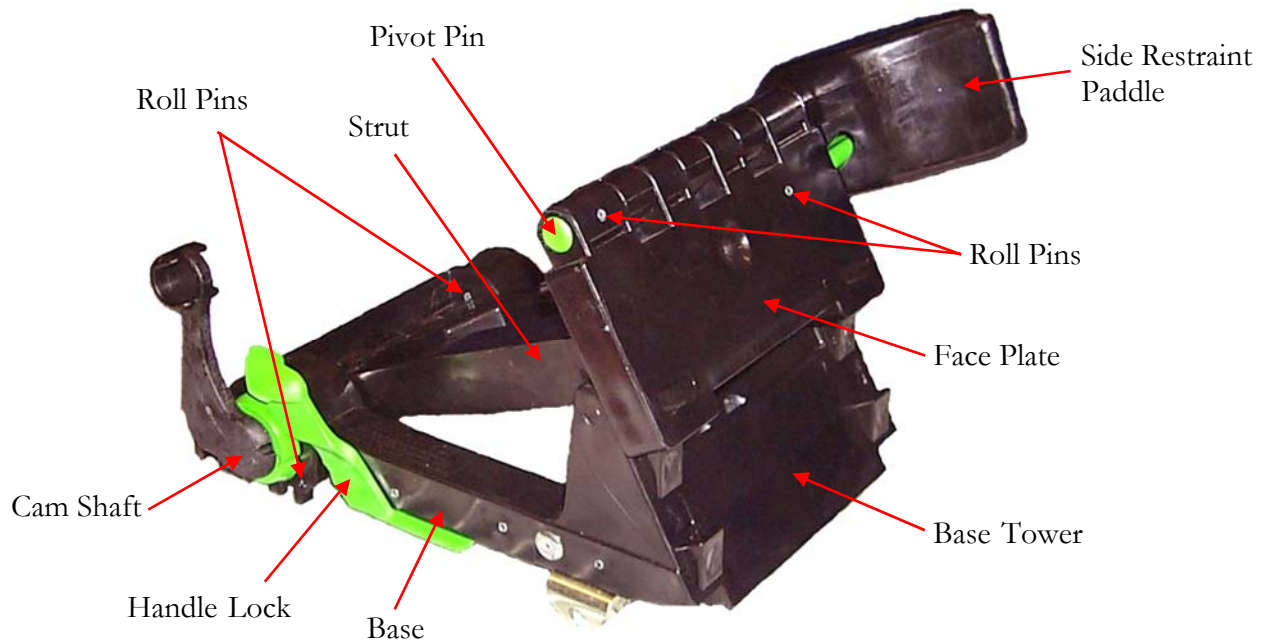

Figure 1: Upperside Component Nomenclature
All major plastic chock components, namely the Base, Strut, and Face Plate should be examined for cracks, fractures, and visible deformations like strain whitening marks. (See Figure 1 for component nomenclature). If defects are found, then the chock is considered to be non-functional and must be repaired or replaced as outlined in the following sections.
- a) The Roll Pins in the Chock Base (12) and in the Face Plate (2) should not be missing or protruding. (See Figures 1 and 5). If any pin is missing, the chock is considered to be non-functional and a new Roll Pin must be replaced in kind. If any pin is protruding by 1/8" or more, it must be **lightly** hammered in until flush with Base surface. These repairs can be performed in the field.